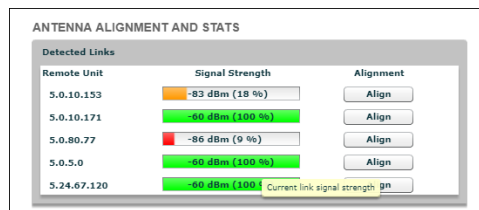

Figure 27. Configurator GUI (Antenna alignment and stats dialog)
- The **ANTENNA ALIGNMENT AND STATS** window will be shown (Figure 27 (page 69)).